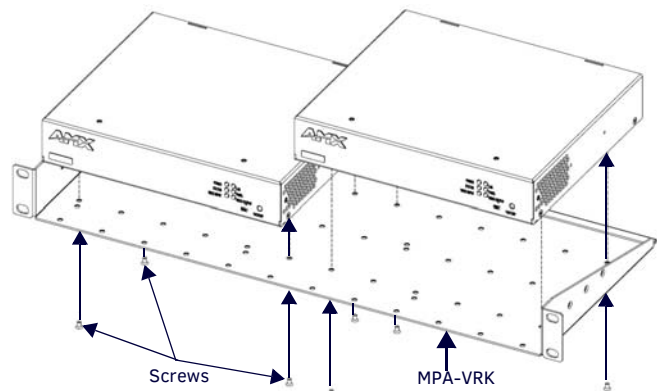

FIG. 4 INSTALLING TWO MXA-MPL DEVICES IN A RACK MOUNTING TRAY
2. Using the screws included with the MPA-VRK, install the screws to the bottom of the MXA-MPL through the Rack Mounting Tray (FIG. 4). Use four screws for each device, one at each corner.